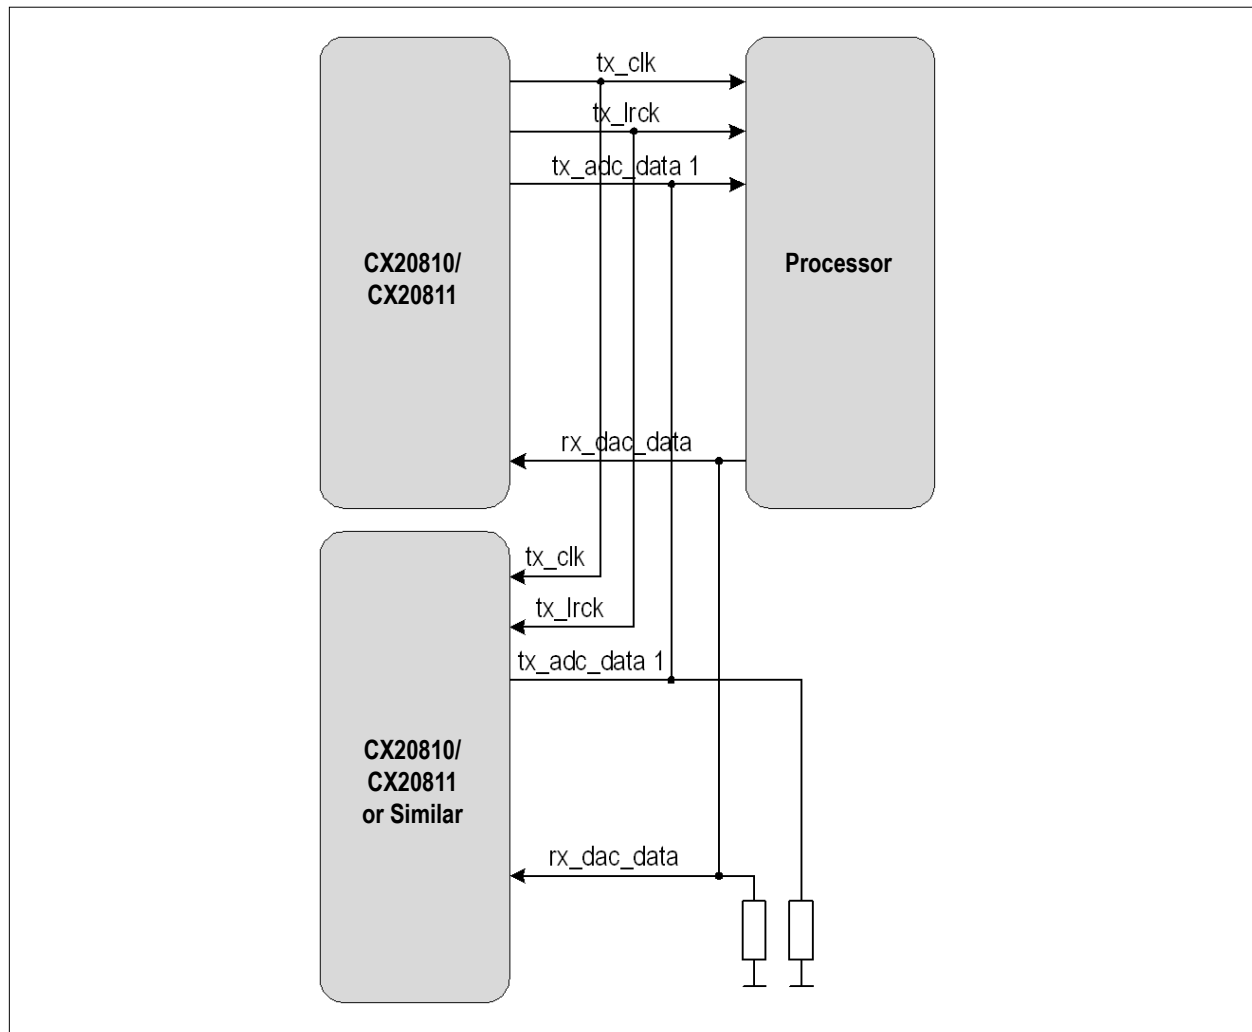

Figure 92: TDM with CX20810/CX20811 as the Master
- Figure 92 on page 170 provides the TDM with CX20810/CX20811 as the master